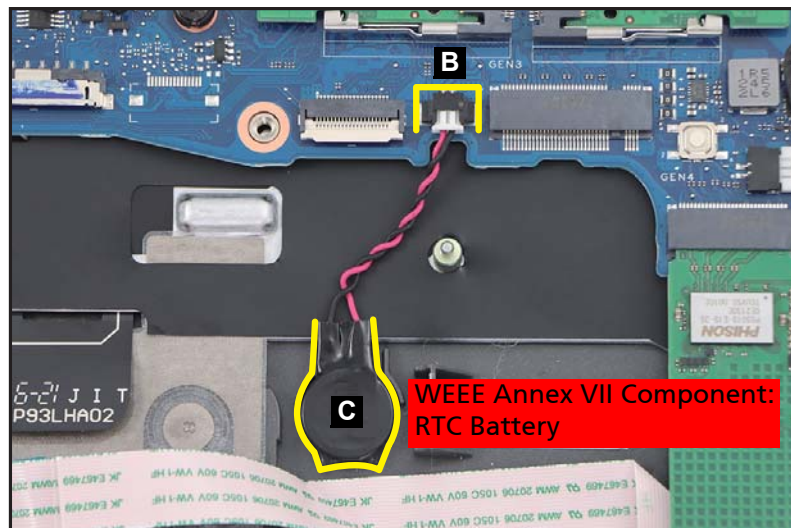

Figure 1-22. RTC Battery Removal
2. Disconnect the RTC battery cable from the mainboard connector (B) (Figure 1-22).
3. Using plastic tweezers, carefully pry to detach the adhesive tape underneath the RTC battery (C) (Figure 1-22). Then remove the RTC battery.